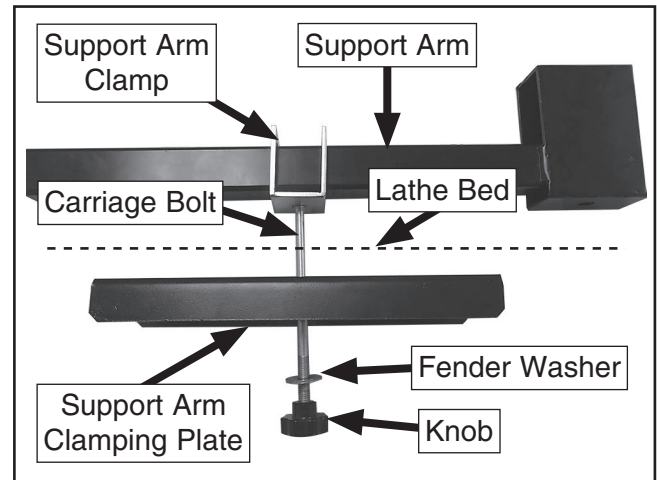

Figure 6. Example of support arm assembly setup for G0733 wood lathe.
2. Mount (2) support arms perpendicular to, and on top of, lathe bed with (2) support arm clamping plates, (2) support arm clamps, (2) M8-1.25 x 150 carriage bolts, (2) 8mm fender washers, and (2) M8-1.25 knobs. Carriage bolt head should be on top of support arm clamp, and support arm clamping plates should be below lathe bed (see **Figure 6**).